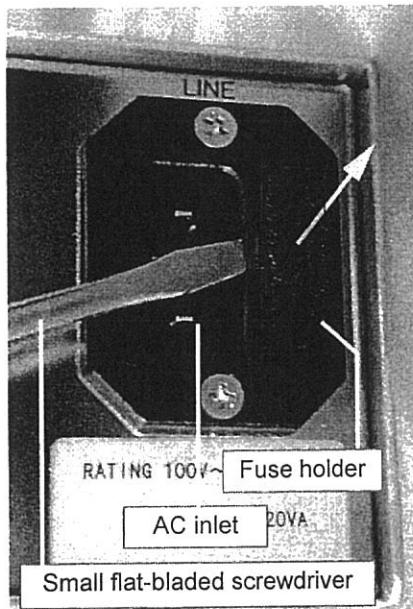

Fig.10-1
- (1) Turn off the power switch.
- (2) Unplug the power supply cord from the AC inlet.
- (3) Remove the fuse holder with something like a screwdriver. (Fig.10-1)